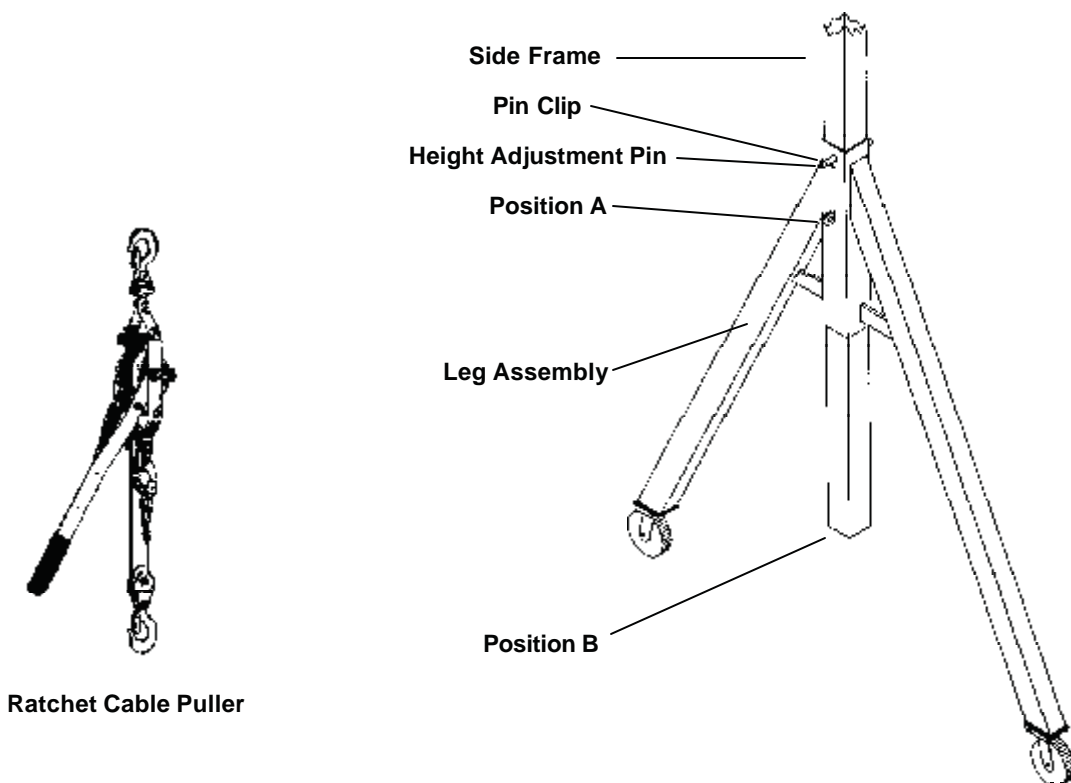

Figure 3
- 2.) Attach one end (hook) of the ratchet cable puller to the bracket (position A) on the leg assembly, and the other end to the end of the side frame (position B). **Please refer to figure below: Figure 3**